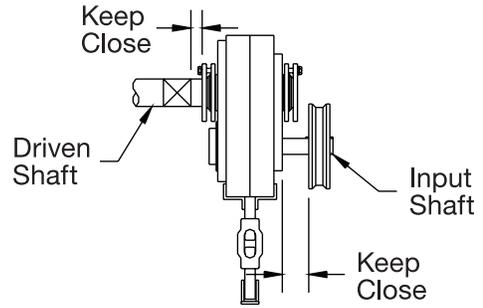

Figure 2 - Reducer and Sheave Installation
- Install sheave on input shaft as close to reducer as practical. (See Figure 2)